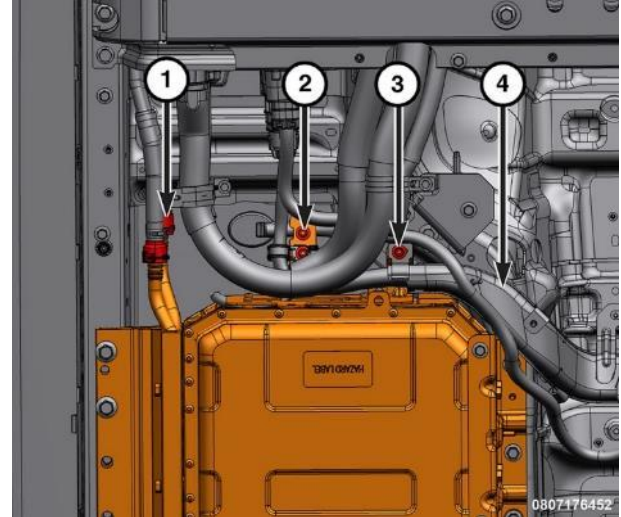

Figure 54 – HV Battery - Secondary
41. Using suitable container and pliers clamp the coolant hoses and disconnect the coolant line quick connect fittings (Figure 54).
42. Remove the nuts securing the wiring harness and wire harness trough then set the harness aside (Figure 54).
49. Install the nuts securing the wiring harness and wire harness trough. Tighten the nuts to 5 N·m (44 In. Lbs.) (Figure 54).
50. Connect the coolant line quick connect fittings to the secondary battery then remove the coolant hose clamp pliers (Figure 54).